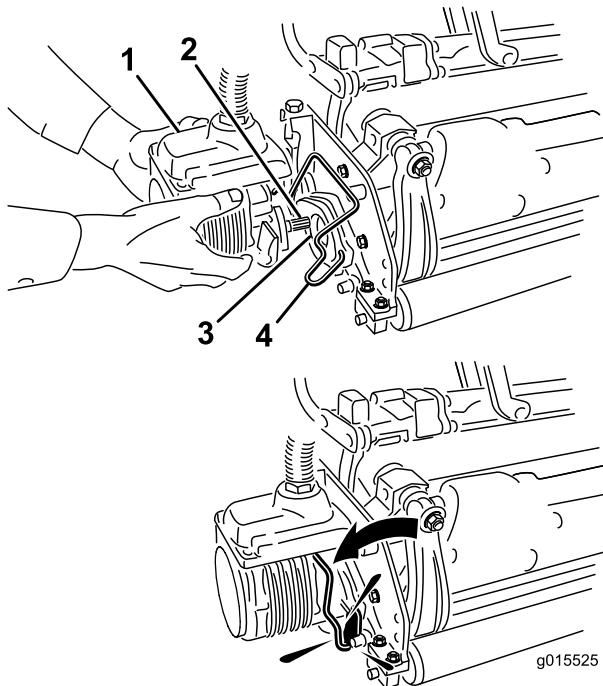

Figure 35
- Coat the spline shaft of the cutting unit motor with clean grease (Figure 35).
- Insert the motor into the left side of the cutting unit (as viewed from the operator's position) and pull the motor retaining bar on the cutting unit toward the motor until you hear an audible “click” from both sides of the motor (Figure 35).